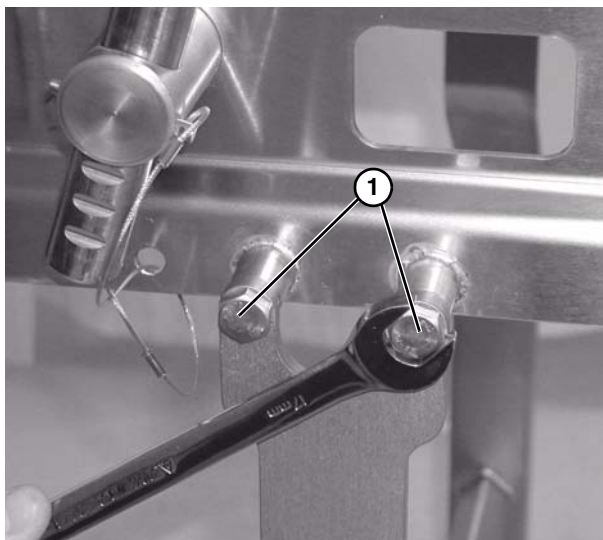

Figure 34
2. Attach the stands to the frame (Figure 34).
3. Tighten hex screws (Figure 34, item 1).